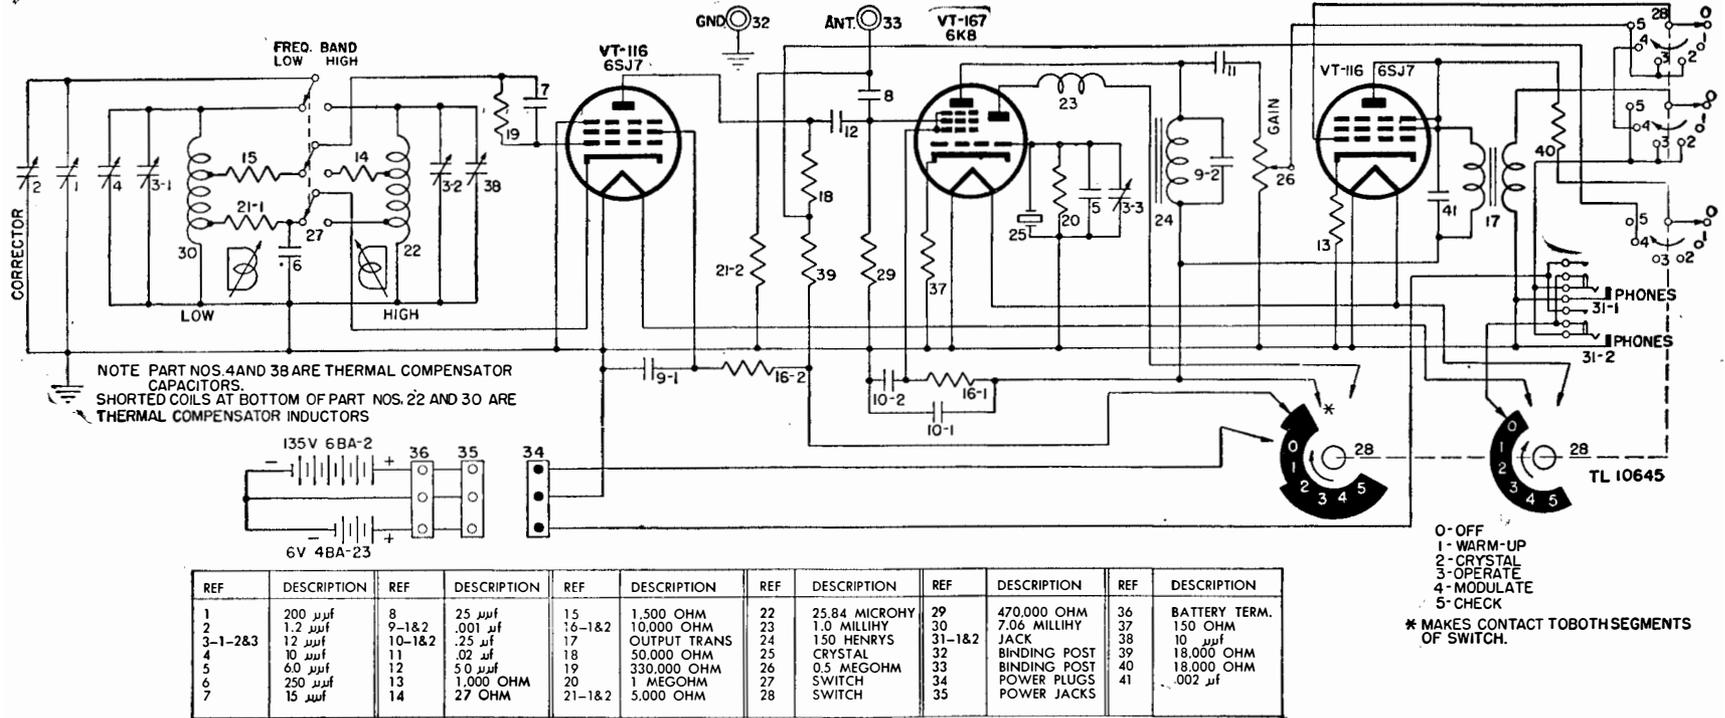

Figure 94. Frequency Meter BC-221-AK, schematic diagram.
The BC-221-AK is very similar to the BC-221-AG described in chapter 9 of this manual with regard to the operation of the variable frequency oscillator, the detector and crystal oscillator, and the audio-amplifier circuits. A six-position operation switch is employed, however, instead of the four-position switch which was used on earlier models made by the same manufacturer. This six-position switch controls two additional circuits, one for the modulator and one for the filament of the variable frequency oscillator tube. At the **WARM-UP** position of the switch, only the filament of variable frequency oscillator Tube VT-116 (6SJ7) draws current. In the **MODULATE** position, the circuit of the audio-amplifier stage is changed to that of an audio oscillator which is coupled to the plate circuit of the variable frequency oscillator so that modulation of the r-f output will take place. (See fig. 94.)
e. OSCILLATOR FUNCTION. (1) The variable frequency oscillator circuit is in operation at the CHECK, OPERATE, and MODULATE positions of the operation switch 28. (See fig. 94).
(2) At the CHECK position, the output of oscillator Tube VT-116 (6SJ7) is applied to one of the grids of detector-converter Tube VT-167 (6K8) where it is mixed with the output frequency of the crystal circuit. The result is a frequency equal to the difference of the two, and is used to adjust the frequency of the oscillator by means of the CORRECTOR control.
(3) At the OPERATE position, the variable frequency oscillator is in operation while the crystal oscillator is not. If the antenna is in position, the frequency meter may be used to receive or send any frequency in its range, that is, it may be used as a radio receiver or transmitter.
297. Power Supply Circuit (fig. 94)